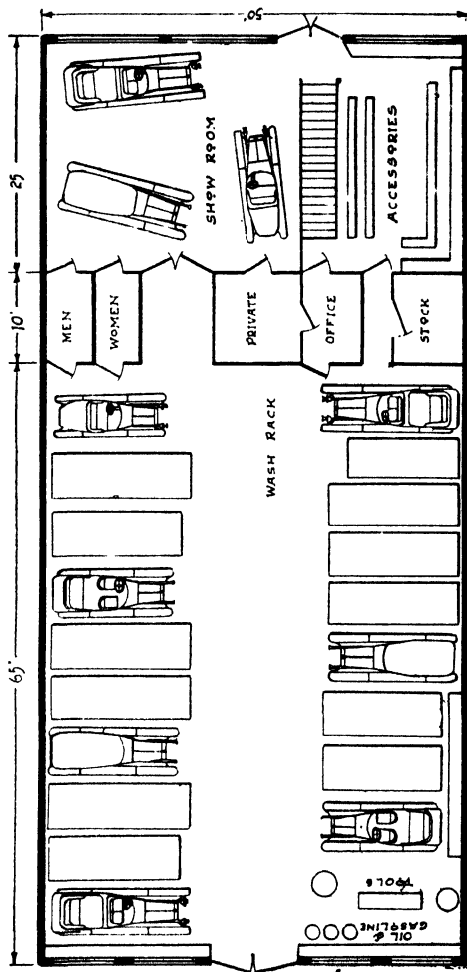

Fig. 5. Another 50 x 100 Garage Arrangement Which Provides Show-Room Space
*Layout 3.* This is perhaps the maximum space for this size of garage, as nothing but storage space has been provided. If a wash rack is to be added, that will cut the storage space down. So, too, will an office for accessories and a show room. Another arrangement is shown in Fig. 5, in which the entire front of the building is given up to display, the cars entering at the rear. Note how the show room takes the larger part of the front, and the accessory salesroom the other part; also how the offices, toilet rooms, and stock room take up space back of the salesroom, so that the garage itself houses but 19 cars. The wash rack is really in the aisle, although at one end.